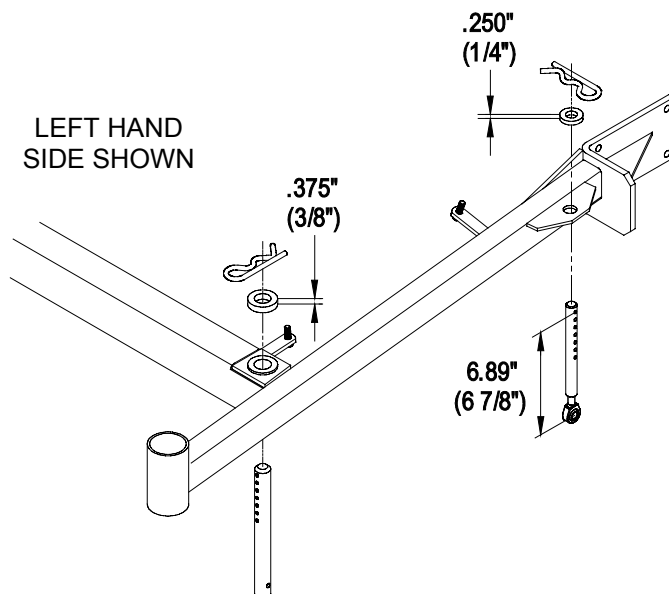

FIGURE 6
- The front and rear hairpins are in the same holes with the proper spacers under the hair pins (See Figure 6).
- The length of the rear deck support link assemblies should average 6.89" (approximately 6 7/8" (17.5 cm)) from the center of the balljoint to the center of the farthest hole (See Figure 6).